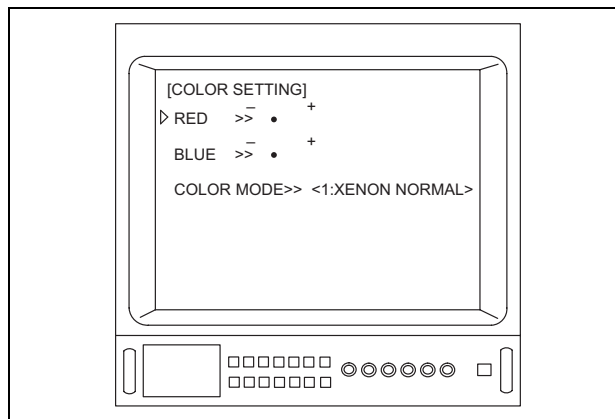

Figure 5.22
6. Depress the menu switches “” or “”, or the “” key on the keyboard to move the arrow “” to the color that you would like to adjust (for example, “RED” shown in Figure 5.22).